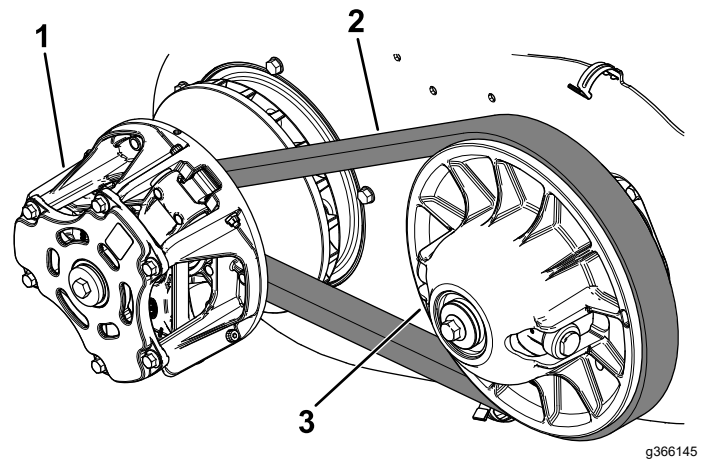

**Figure 86**
5. Unlatch the 6 spring clips securing the belt cover and remove the cover (Figure 86).
8. Install the belt cover (Figure 86).
10. Install the belt cover (Figure 86).